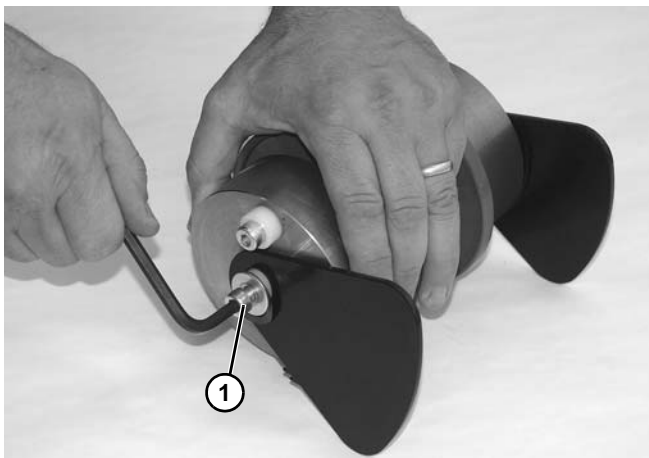

Figure 136
6. Remove socket head screw (Figure 136, item 1) from end of idler pulley assembly.